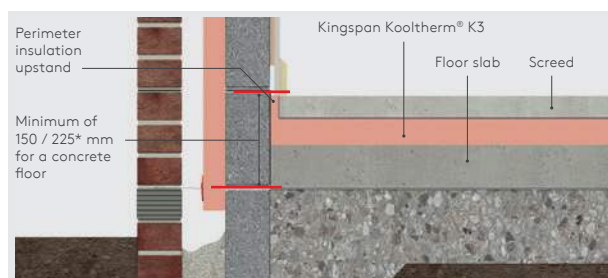
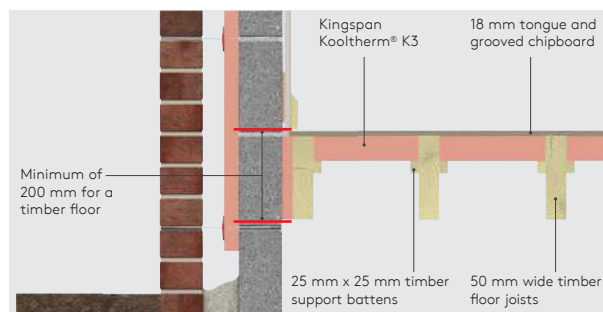

Figure 1: Complete Masonry Floor Insulation
Figure 5: Complete Timber Floor Insulation
For buildings with relatively small ground floor areas (primarily domestic properties), if the ground floor is left uninsulated, the thermal performance will be poor. To enhance the thermal performance, complete insulation of the ground floor should be adopted (Figures 1 & 5).
- In order to minimise cold bridging at the edge of the floor, the distance between the top surface of the floor insulation or perimeter insulation upstand, and the bottom of the wall insulation must be a minimum of 150 / 225\* mm (see Figures 1 & 2) for a concrete floor and 200 mm for a suspended timber floor (see Figure 5). The further down the wall insulation extends past the floor insulation, the better the thermal performance of the junction between the wall and the floor.